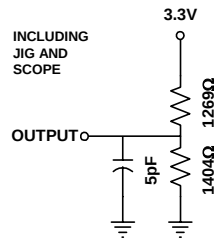

FIGURE 1B
5. Transition is measured $\pm 500\text{mV}$ from steady state with CL=5pF as shown in Figure 1B. The parameter is guaranteed but not 100% tested.
10. Transition is measured 500mV from steady state with C_L = 5pF as shown in Figure 1B. The parameter is guaranteed but not 100% tested.